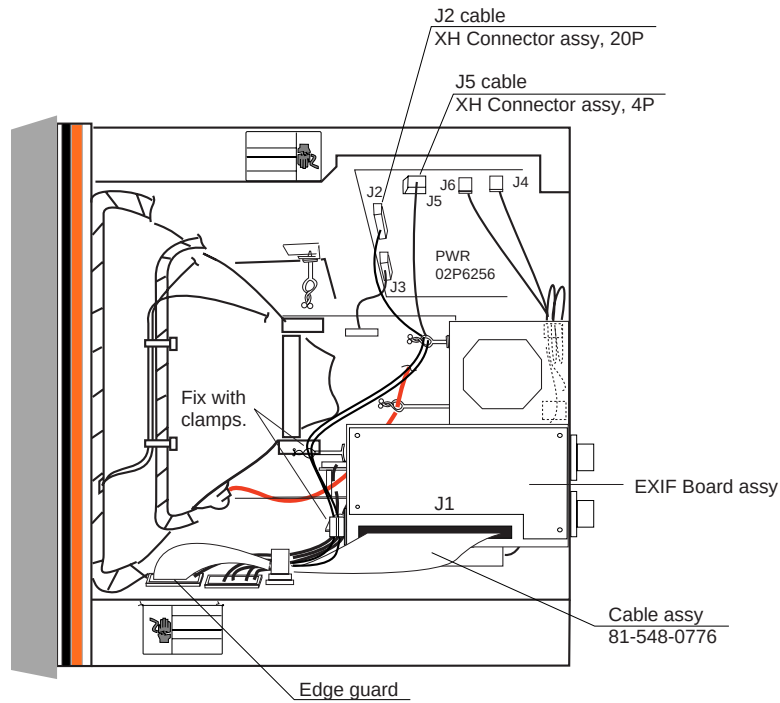

Figure 2-10 Display unit, top view
6. Pass the cable attached to J1 on the EXIF Board at step 5 through the edge guard shown in Figure 2-10.